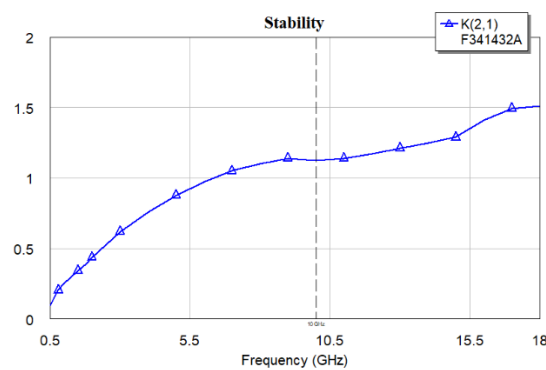

Fig. 1 Stability factor of the ATF-34143 transistor.
- Check if  $k > 1$  at your design frequency. If not, contact a teacher. The stability of the ATF-34143 transistor is shown in Fig. 1.